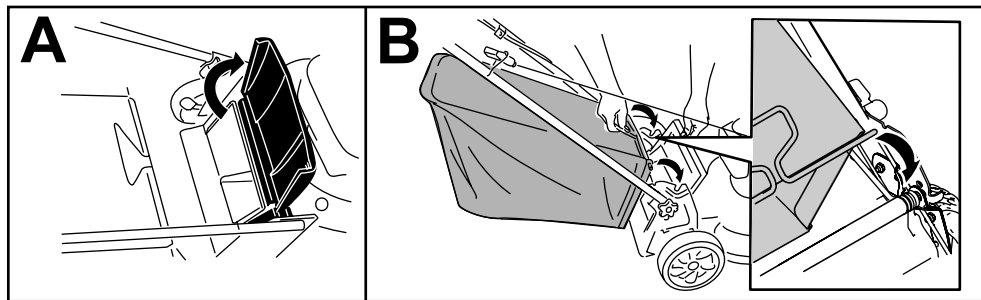

Figure 16
1. Raise and hold up the rear deflector (A of Figure 16).
2. Install the grass bag, ensuring that the pins on the bag rest in the notches on the handle (B of Figure 16).